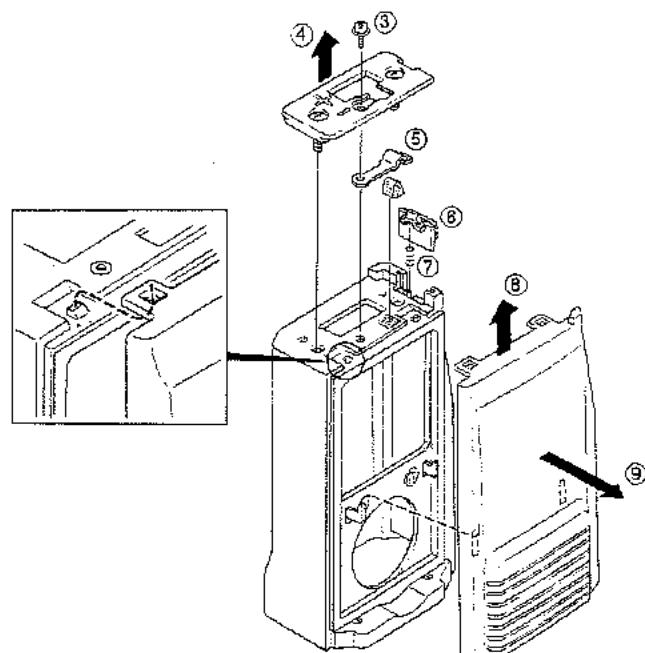

Fig. 6
2. Remove the one screw (N09-2053-05) holding the bottom plate (③), and remove the bottom plate (④). See Figure 6 for 2 to 6.
3. Remove the terminal (E23-0474-14) and cushion (G11-0617-04) (⑤).
4. Remove the release knob (⑥) and spring (G01-0867-04) (⑦).
**Note:** To remove the front half of the case from the rear half, push up the front panel in direction (⑧) shown in Figure 6 and remove it in direction (⑨).